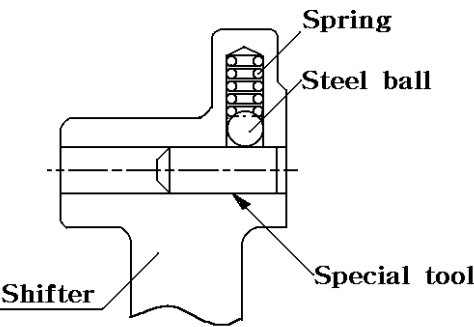

Fig.5-55
(3) Reassembly
- c. When installing the shifter on the shifter stay, Use the special tool as shown in Fig.5-55